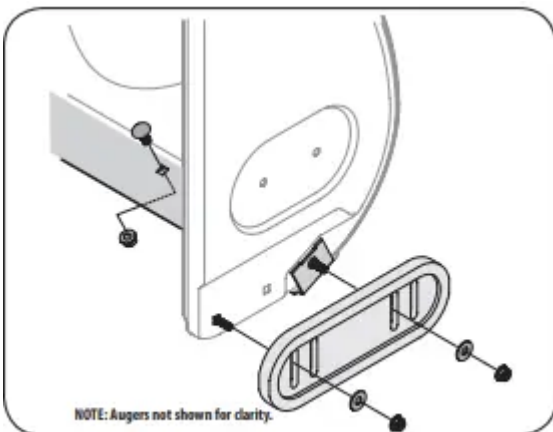

Figure 59
- Reassemble new shave plate, making sure heads of carriage bolts are to the inside of housing. Tighten securely. See Figure 59.